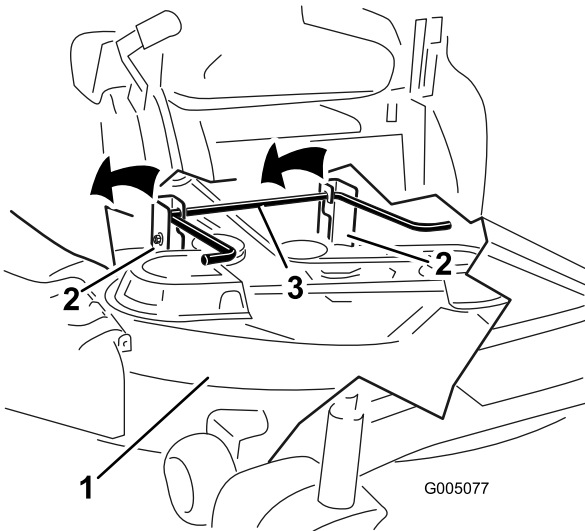

**Figure 53**
4. Remove the hairpin cotter from the front support rod and remove the rod from the deck bracket (Figure 53). Carefully lower the front of the mower deck to the ground.
- Attach the front support rod to the mower deck with the clevis pin and hairpin cotter (Figure 53).